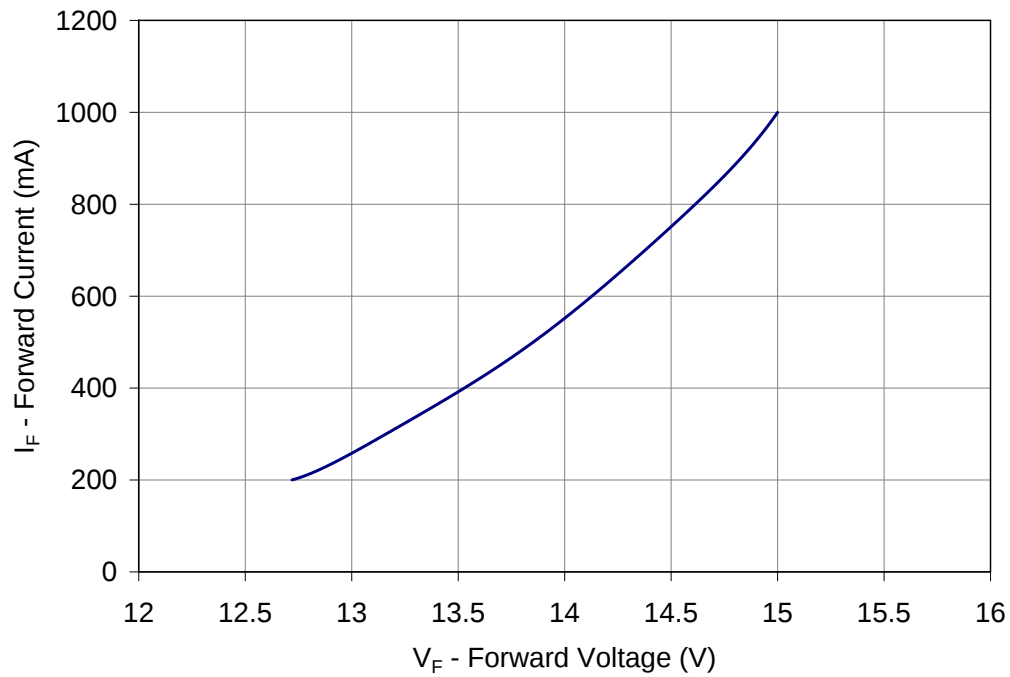

Figure 6: Typical forward current vs. forward voltage @ $T_C = 25^\circ\text{C}$.
3. Refer to Figure 6 for typical dominant wavelength shift over forward current.
- Refer to Figure 6 for typical dominant wavelength shift over forward current.
Note for Figure 6: